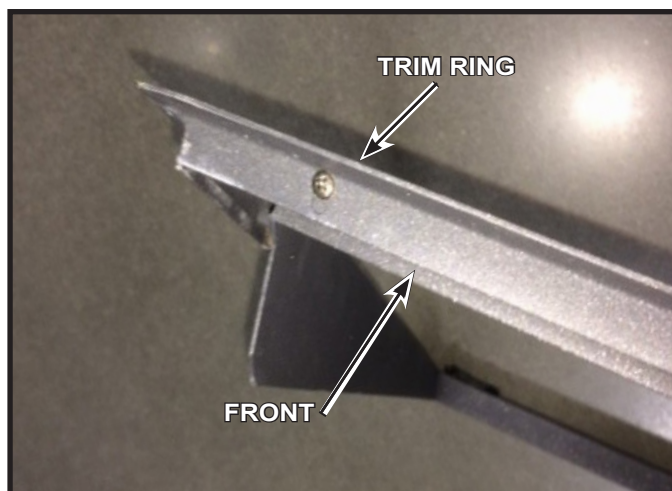

Figure 4.6 Trim Ring Depth Adjustment
7. If necessary, adjust Trim Ring out in the Front to allow for additional clearance for the wall finishing thickness. Make the adjustment by loosening the screws, adjusting, the tightening the screws. See Figure 4.6.
2. Remove the Trim Ring from the Front. Remove the screws that attach the two parts. See Figure 4.6. Carefully disengage the Trim Ring and remove it from the area.